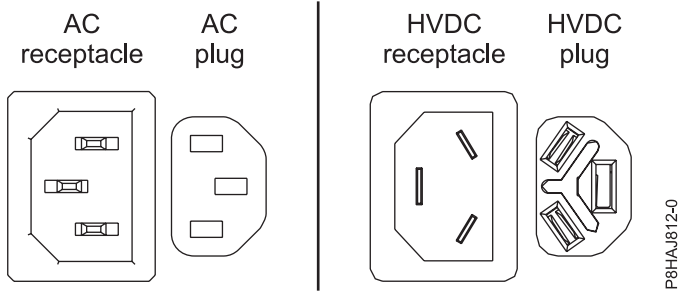
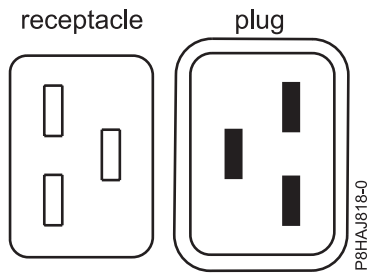
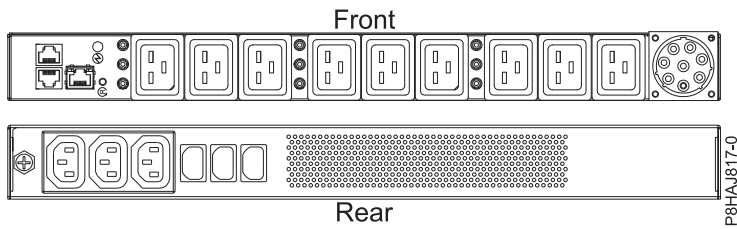

Figure 156. AC and HVDC connectors
Figure 157. Connectors for the 8408-44E system
Figure 158. PDU for the 8408-44E system
Figure 156 on page 193 shows the supported alternate current (AC) and high voltage direct current (HVDC) connectors. Figure 157 on page 193 and Figure 158 on page 193 show the supported connectors and power distribution unit (PDU) for 8408-44E.